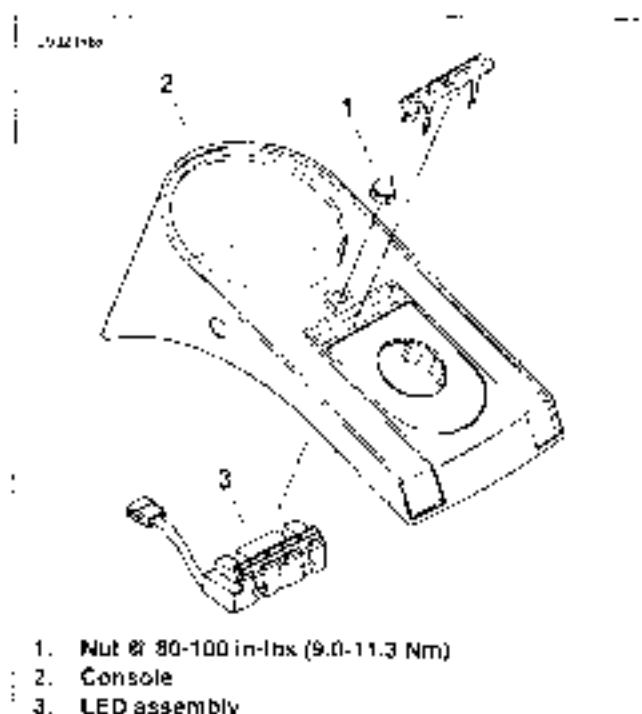
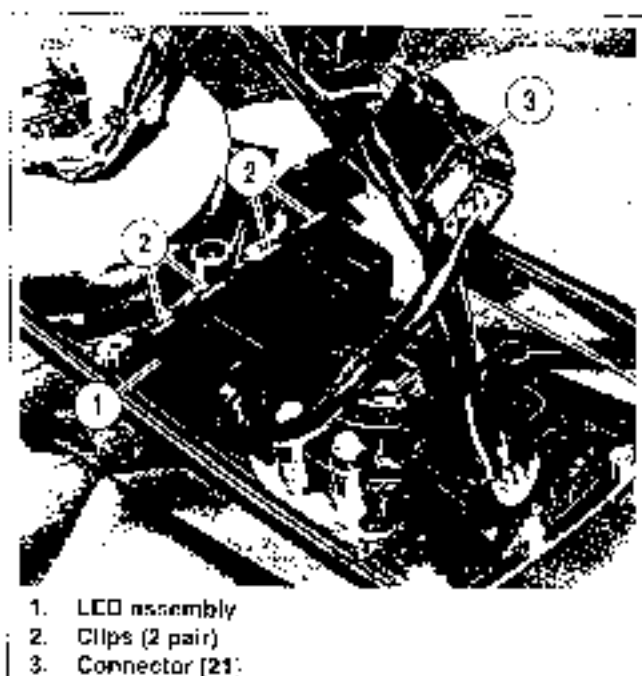

Figure 8-62. Indicator Lamp Assembly: FXDWG
Figure 8-63. FXDWG Connector [21]
1. See Figure 8-62. Remove nut (1) and raise console (2) from fuel tank. Place shop rags on tank and flip console over to expose underside.
2. See Figure 8-63. Squeeze clips together (2) and gently pry indicator lamp assembly (1) out of console from the side with a screwdriver.
3. Disconnect 5-pin connector (3) (21) from indicator lamp assembly.
1. See Figure 8-63. Install indicator lamp assembly (1) in console. Make sure clips (2) engage to secure assembly in place.
2. Connect connector (3) (21) to main wiring harness.
3. See Figure 8-62. Place console (2) in position. Tighten nut (1) to 80-100 in-lbs (9.0-11.3 Nm).